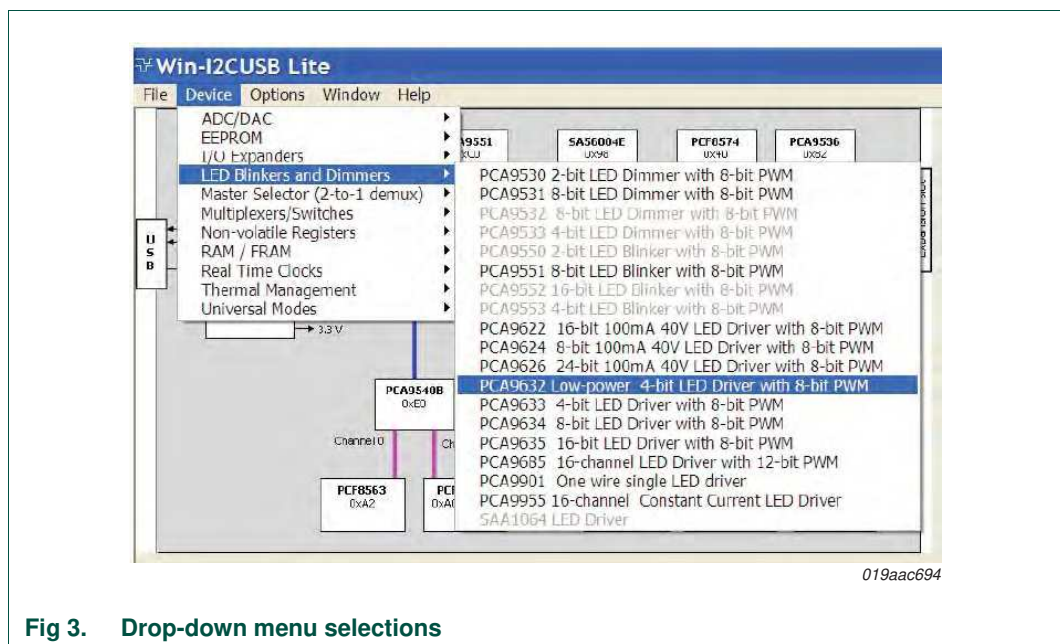

Fig 3. Drop-down menu selections
4. From the 'Device' drop-down menus select 'LED Blinkers and Dimmers', and from the subsequent drop-down menu select 'PCA9632 low power 4-bit LED driver with 8-bit PWM' as in Figure 3.